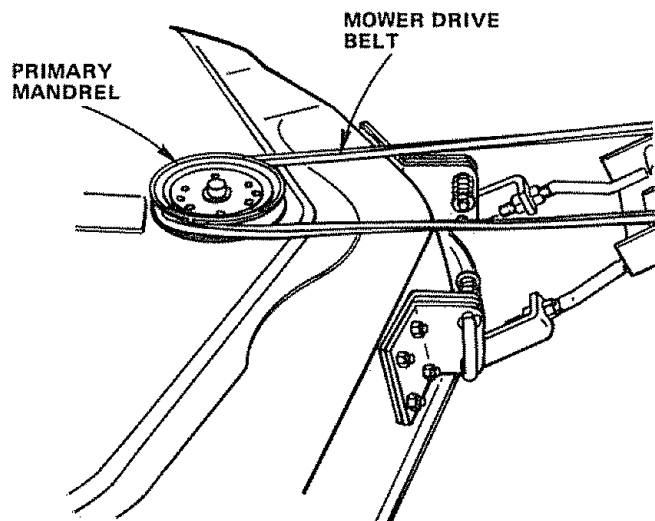

FIGURE 16
10. Press plunger down and push Attachment Handle forward to lower mower to ground. Roll Drive Belt over Primary Mandrel (Fig. 16).